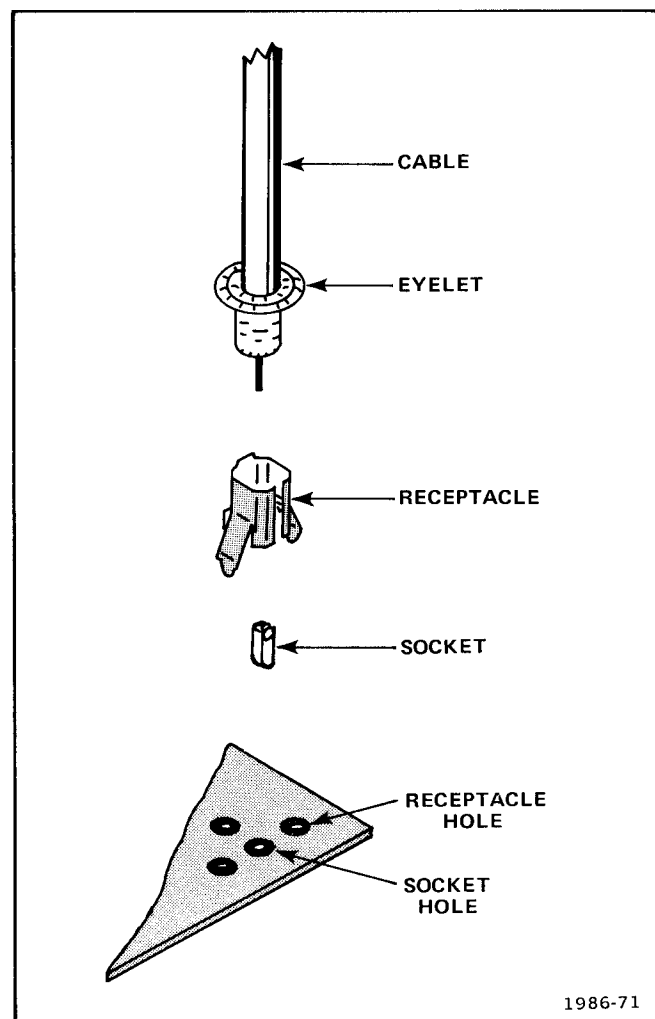

Fig. 4-8. Coaxial end-lead connector assembly.
4. Note the wire color on the single-conductor shielded cables (see Fig. 4-8 for identification) and the connector to which each is attached.
Three methods of interconnection are used to connect the circuit boards with other boards and components. When the interconnection is made with a coaxial cable, a special end-lead connector plugs into a socket on the board (Fig. 4-8). When the interconnection is made with a wire lead, an end-lead connector is used that mates with the interconnecting pin soldered into the board (Fig. 4-4). When the interconnection is made between adjacent boards, an interboard multi-pin connector is used (Fig. 4-3). The following information provides the removal and replacement procedure for the various types of interconnection methods.